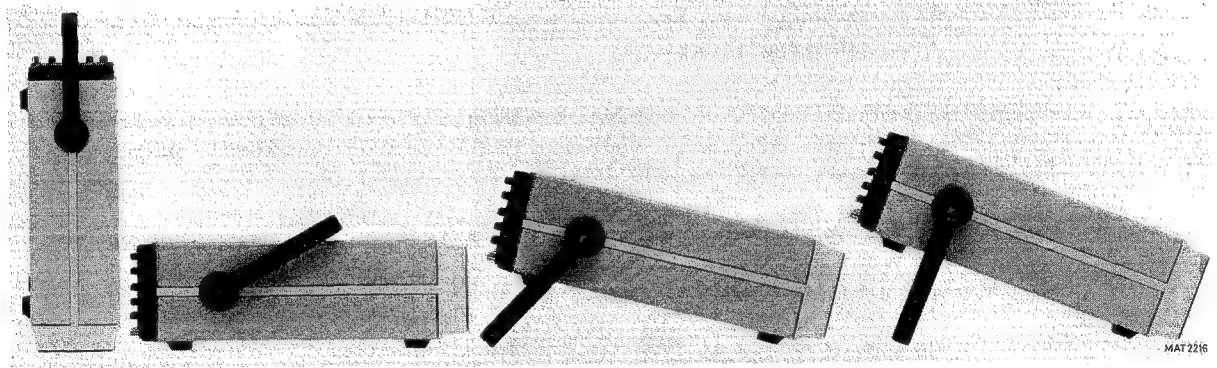

Figure 2.2 Handle in different positions.
- on the carrying handle in two sloping positions (see Figure 2.2)